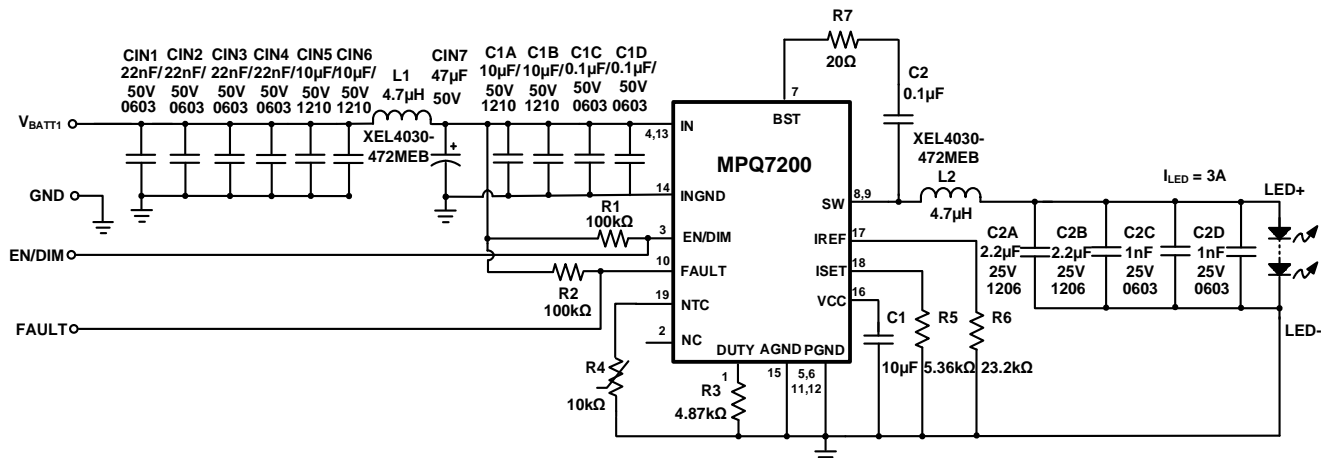

Figure 10: Typical Application Circuit (Buck Mode, $I_{LED} = 3A$, No Two-Step Dimming)
- 14) The recommended PCB layout for buck mode is based on Figure 10.